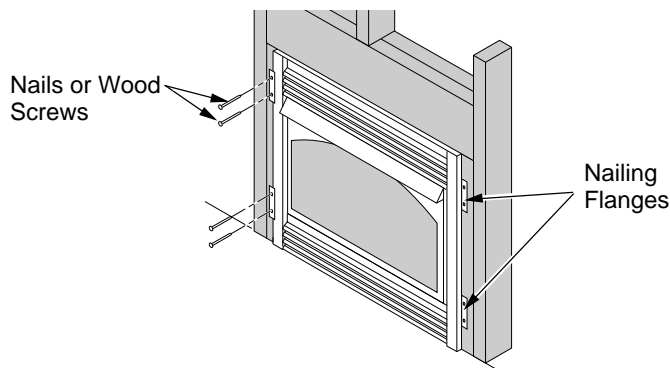

Figure 15 - Attaching Fireplace to Wall Studs
8. Attach fireplace to wall studs using nails or wood screws through holes in nailing flange (see Figure 15).